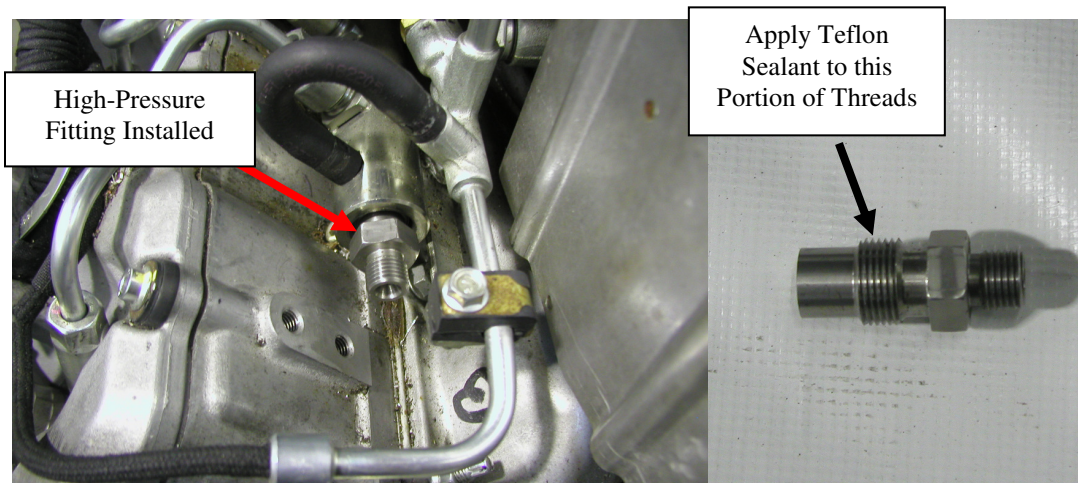

Figure 7: High-Pressure Fitting Installation
11. Once the rail relief plug is removed, install the supplied high-pressure rail fitting as shown in the picture below. Apply a liberal amount of Teflon sealant to the threads on the high-pressure fitting. Only apply the sealant to the threads that will contact the rail, Figure 7.